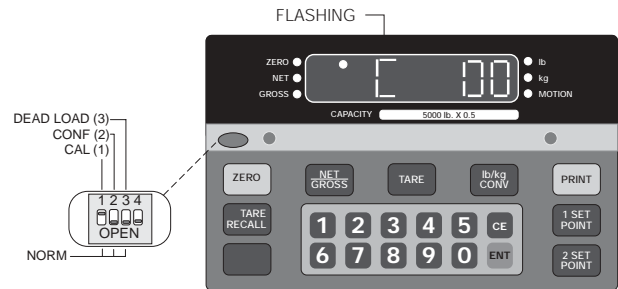

Figure 5-2. Close Switch 3 and Open Switch 1
3. Adjust dead load potentiometer to obtain a reading at or near zero (see Figure 5-2).